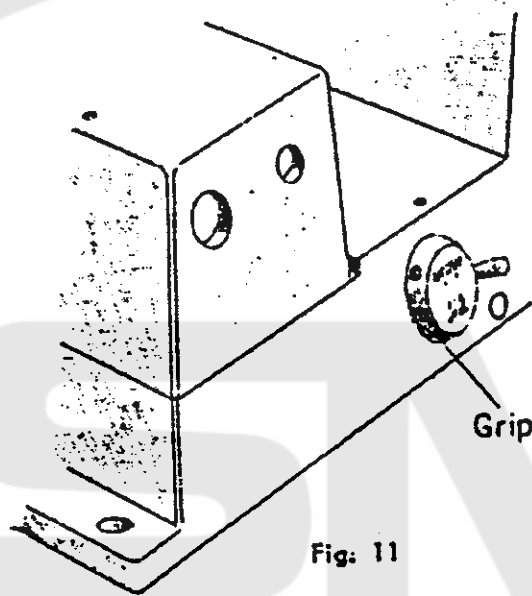

Fig. 11
12. The Skip Stitch Device (Figs. 11&12)